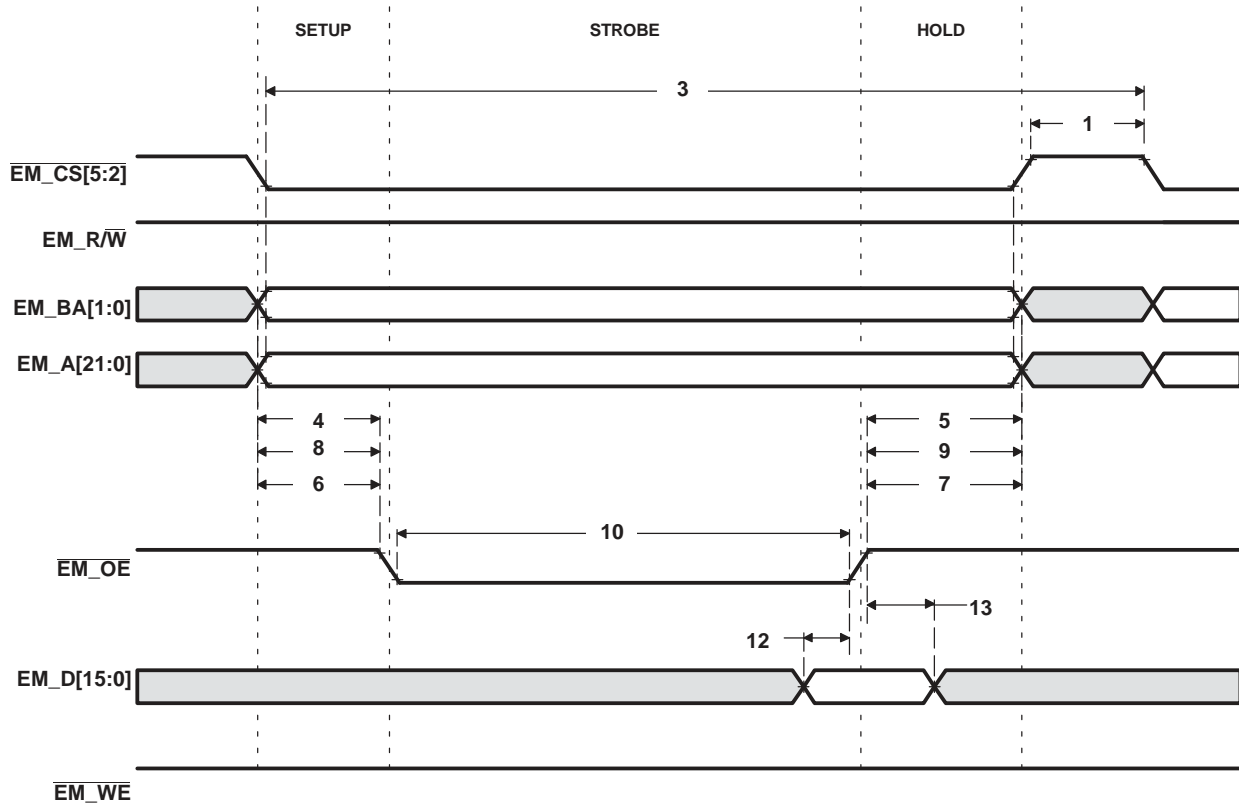
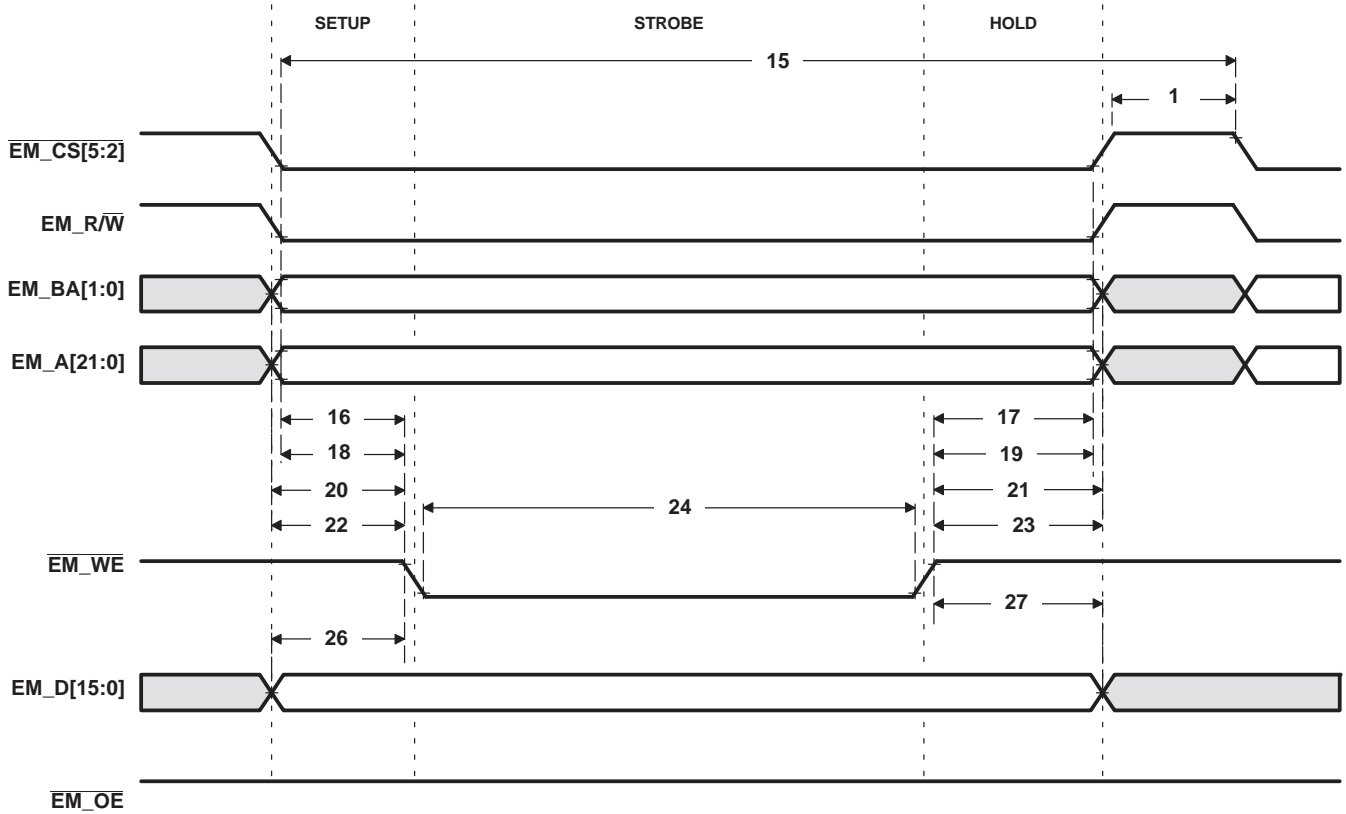

Figure 6-21. Asynchronous Memory Read Timing for EMIF
Figure 6-22. Asynchronous Memory Write Timing for EMIF
(see Figure 6-21 and Figure 6-22)
**Table 6-35. Switching Characteristics Over Recommended Operating Conditions for Asynchronous Memory Cycles for EMIFA Module(1)(2) (see Figure 6-21 and Figure 6-22)**